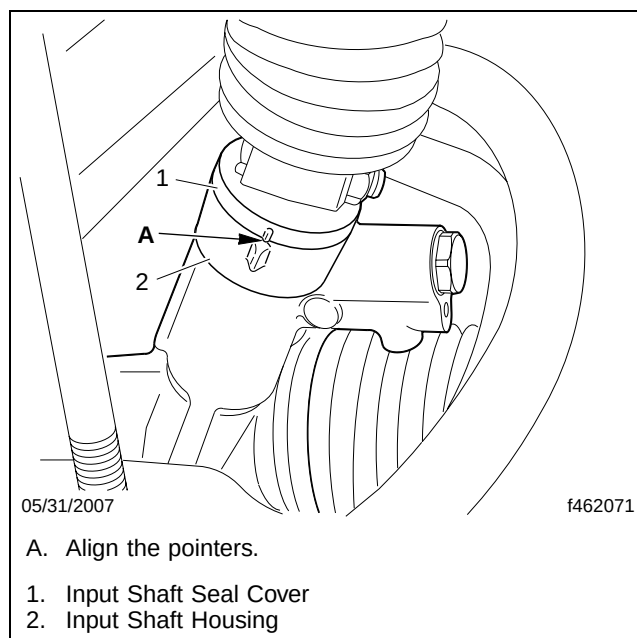

Fig. 11, Pointer Alignment
34.2 Align the pointers on the input shaft seal cover and the input shaft housing. See **Fig. 11**.
- 37.2 With the wheels on turnplates, center the rack travel by aligning the timing pointers on the input shaft seal cover and the input shaft housing. See **Fig. 11**.